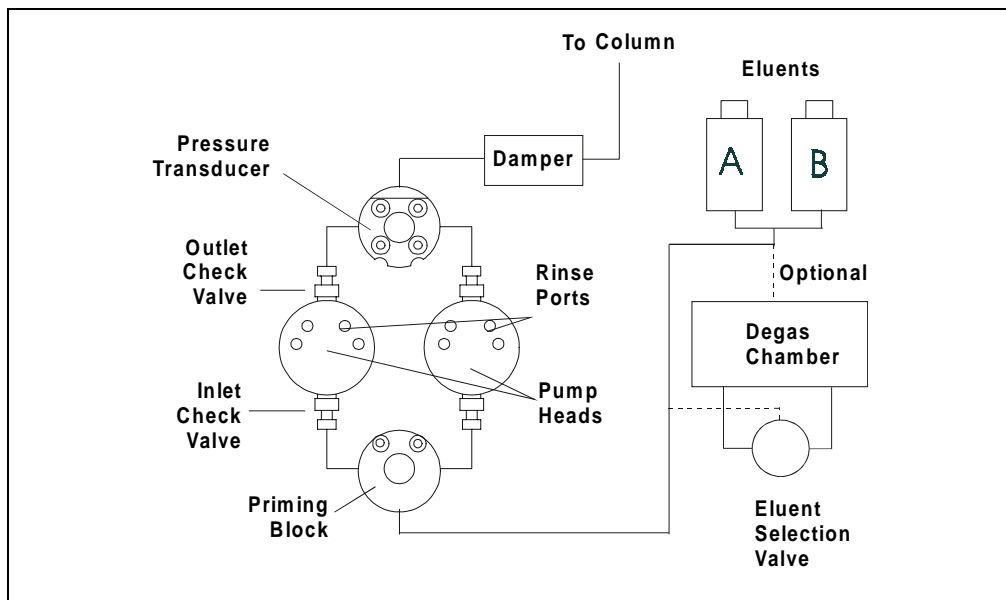

Figure 3-5. Eluent Flow Schematic
- Check the entire mechanical chassis for leaks from the rinse ports, the vacuum degas chamber(s), and the eluent reservoir (see Figure 3-5). Tighten or replace any leaking fittings. Wipe up liquid spills and rinse dried reagents off pump components with deionized water.
- **Leaks from any connection between the eluent reservoir and the pump heads indicates an eluent leak (see Figure 3-5)**